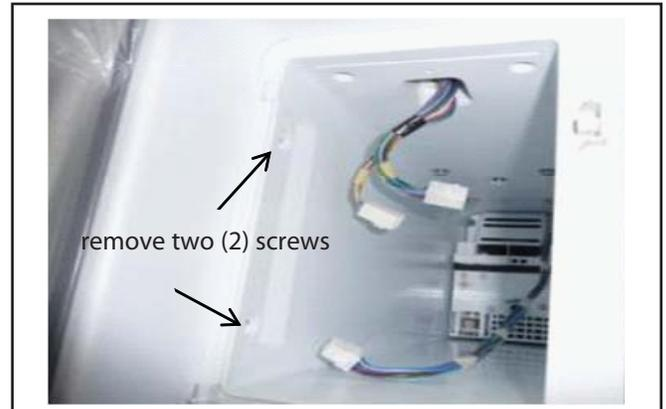

Figure 6-56
1. After completing the Ice Maker Removal Procedure, remove the screws at the front of the Housing. Figure 6-56.